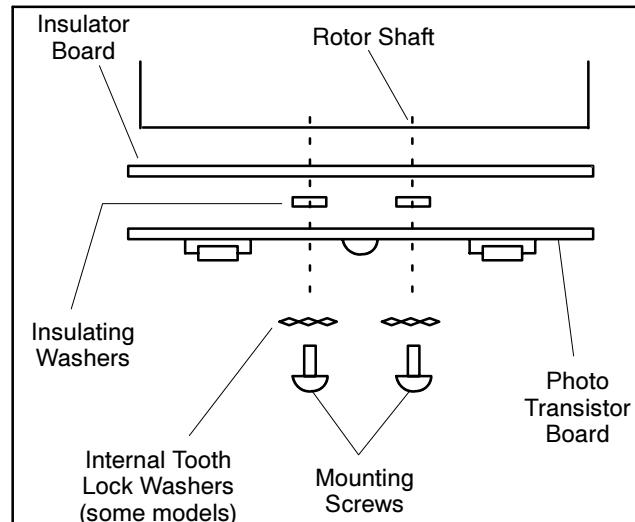

Figure 8 Photo Transistor Board Mounting
- Attach photo transistor board (GM34505), two insulating washers (243321), and insulator board (257850) to end of rotor shaft using two screws (X-117-5) and washers (X-22-9). Torque to 1.1 Nm (10 in. lb.) maximum. See Figure 8 for component sequence.